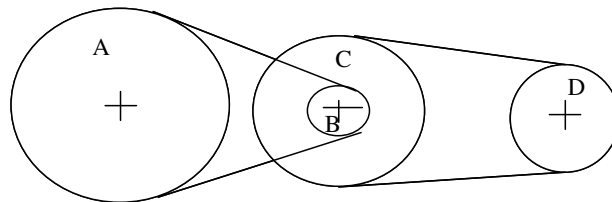

Fig 7
- (c) A compound belt and counter shaft drive is shown in Figure 7. The pulley diameters are A 72 cm, B 27 cm, C 54 cm, D 24 cm.